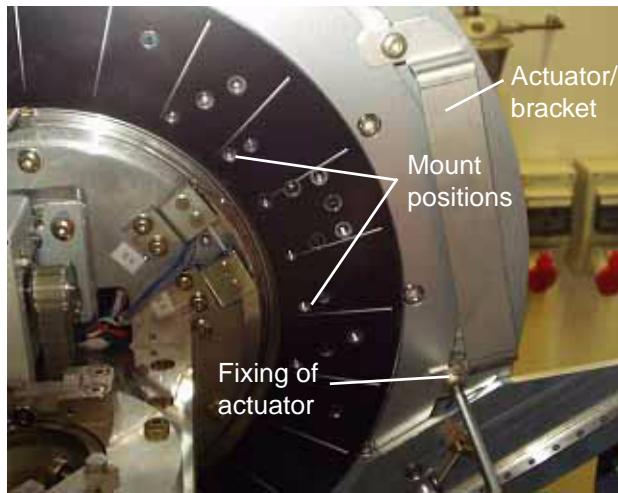

Figure 5.10 - Mounting of the actuator bracket for beam stop collision switch
9. To mount the detector, use M5 30 mm Torx screws and place the detector onto the goniometer. Use the same position as used with the secondary slit system with the scintillation counter (see Figure 5.10).
9. Mount the actuator for the beam stop collision switch using a T-nut in the groove ring (see Figure 5.10). The position of the actuator is defined by the extreme low position of the alignment screw and shows the highest position of the primary beam stop (about 6° 2-theta).